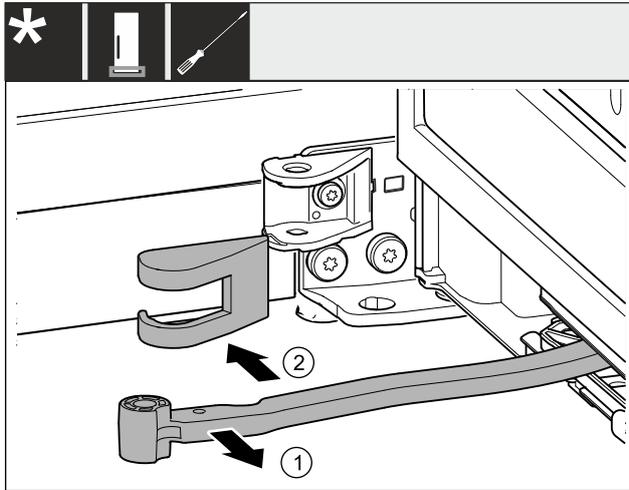

Fig. 6
- ▶ Turn the joint towards the door. *Fig. 6 (1)*
- ▶ Remove the swap bearing block cover. *Fig. 6 (2)*